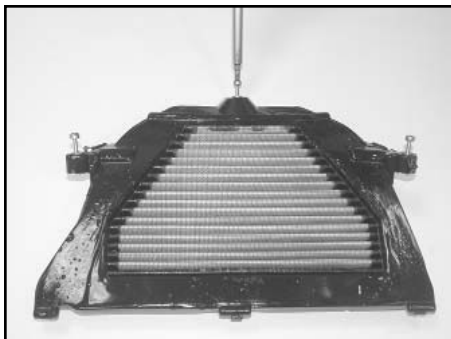

Fig. 1
- 2) Install the provided screws and washers onto the K&N Filtercharger® **before** installing air filter. (Fig. 1)